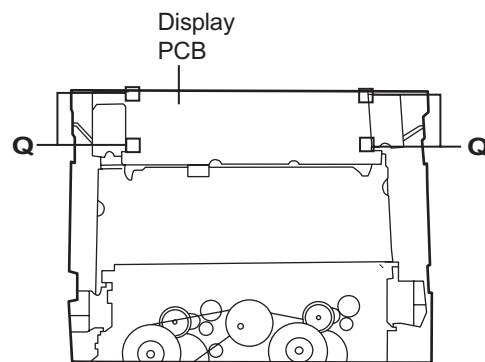

Fig.21
### 3.2.8 Removing the Display board (See Fig.21)
- (5) Remove two screws **S** retaining the sound mode and CD function (key 2) switch board.(Fig.21)